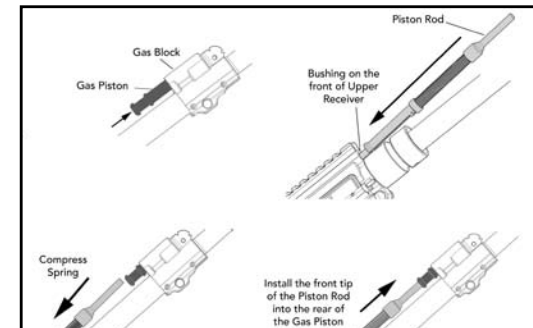

Fig. 53 – Reinstalling the Gas Piston and the Piston Rod
- Install the gas piston into the back of the gas block. The piston rings need not be staggered prior to installation (Fig. 53).